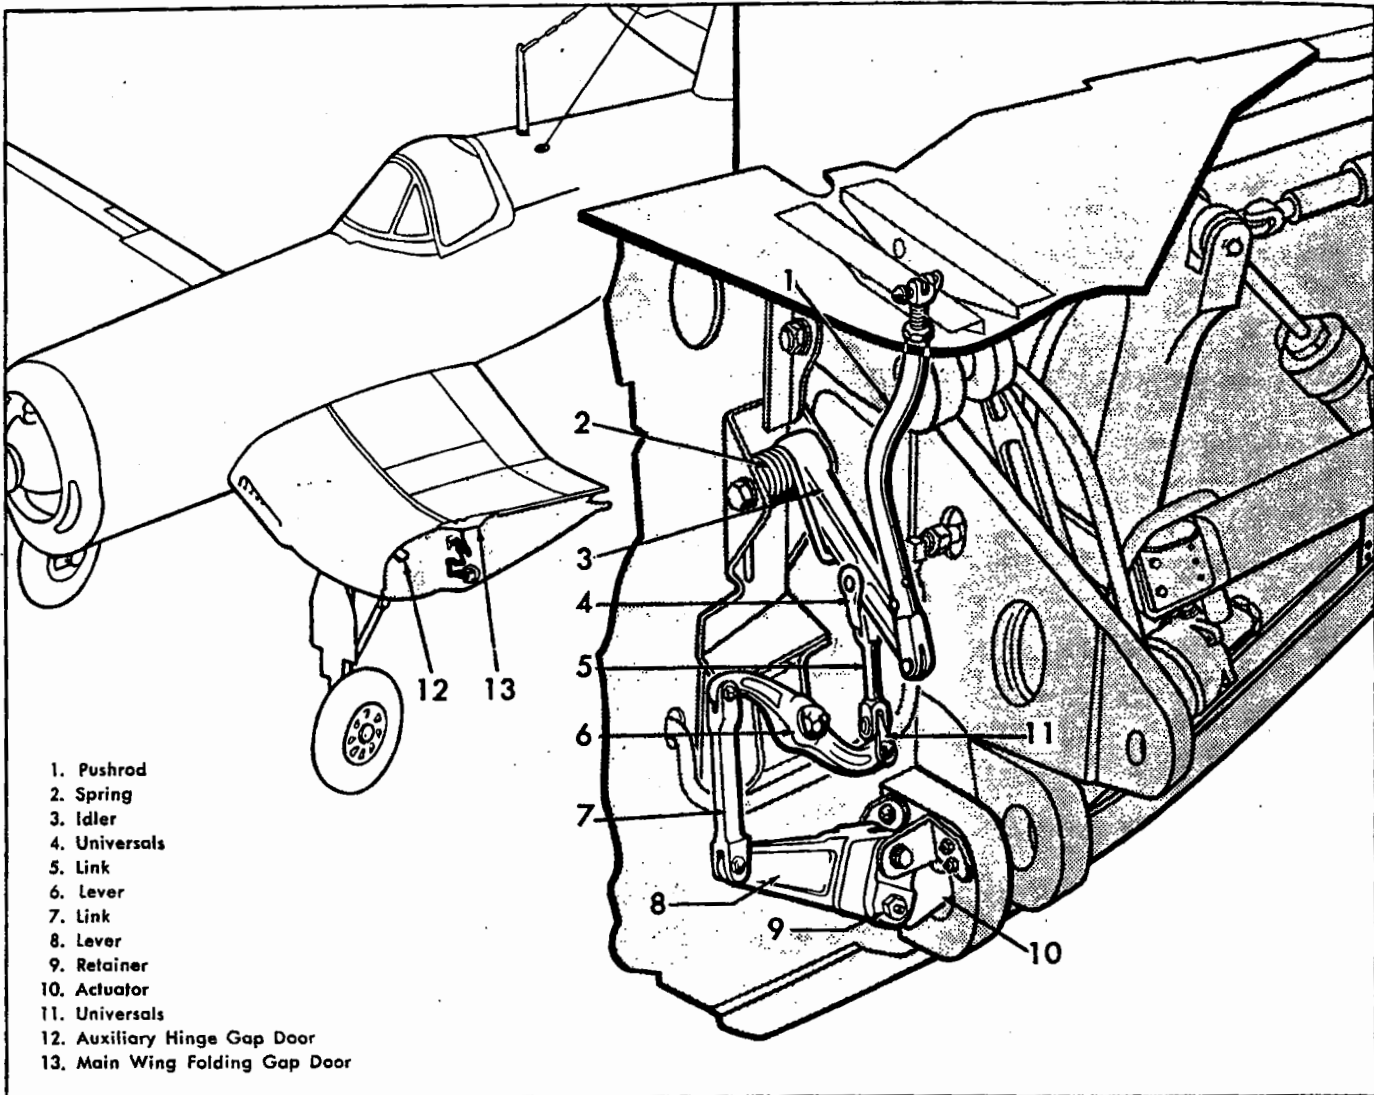

Figure 4-5. Main Wing Folding Gap Door and Mechanism.
4-21. DESCRIPTION. (See figures 4-5 and 4-1.) The main wing folding gap doors which provide clearance for the upper hinges of the outer panels during folding of the wings, furnish in addition, a visible indication of the proper engagement of the lower hinge bolt. Each door is hinged to the center section directly over the upper main hinge. It is connected by means of a pushrod to a series of levers and pushrods which lead to the lower center section hinge fitting opposite the wing hinge pin. The linkage is spring-loaded to hold the door in a vertical position readily visible from the cockpit. When the wing is in the spread position, a bumper on the outer panel depresses a pin protruding from the gap door
4-22. REMOVING. (Refer to figure 4-5.)
4-25. ADJUSTING. (See figure 4-5.)
a. Disconnect the aileron control link (4) at the outer panel control rod, and fold the link down clear of the upper hinge bolt (5).
b. Disconnect the outer panel flap control rod (1) at the inboard end of the outer panel flap, and tie the rod to the center section flap rod (2).
c. Disconnect the pushrod to the wing folding gap door at the pushrod and idler (references (1) and (3) on figure 4-5).